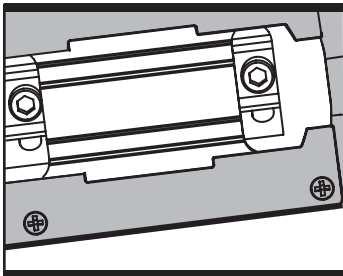
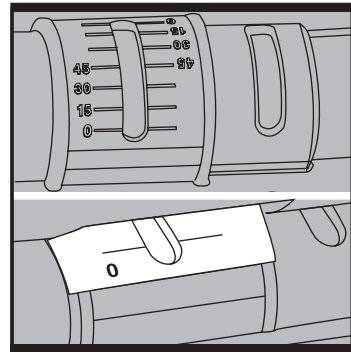

Fig 8
Fig 9
Using a Hex key (14), loosen the bolts securing the base plate (See Fig 8). For pre-set angles rotate the base so the angle markings on the base plate line up with the markings on the angle plate (11) for preset angles (0°, 15°, 30°, 45°) (See Fig 9). For other miter angles, rotate to your desired angle (use a protractor scale). Following one